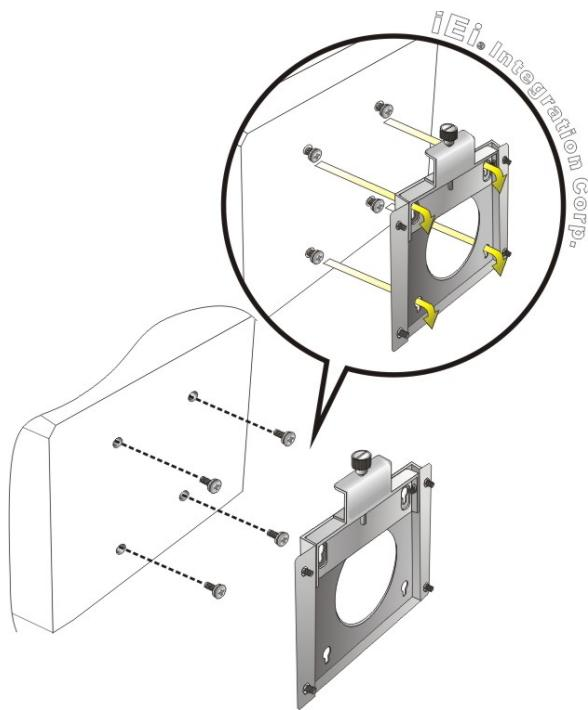

Figure 3-13: Chassis Support Screws
Step 6: Insert the four monitor mounting screws provided in the wall mount kit into the four screw holes on the real panel of the flat bezel panel PC and tighten until the screw shank is secured against the rear panel (**Figure 3-13**).
Step 8: Carefully insert the screws through the holes and gently pull the monitor downwards until the monitor rests securely in the slotted holes (**Figure 3-13**). Ensure that all four of the mounting screws fit snugly into their respective slotted holes.